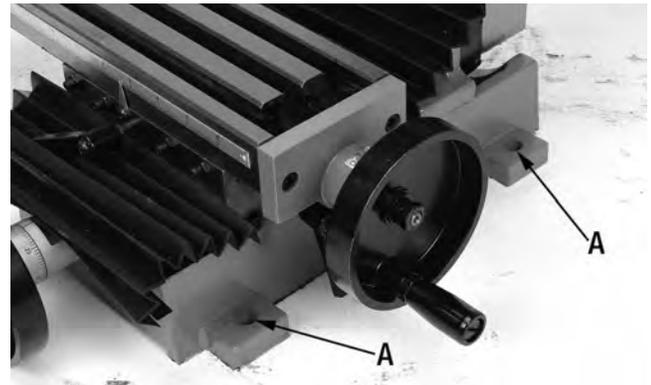

FIGURE 4
Remove all contents from the packing. Lift the Mini Milling/Drilling Machine using handling equipment or get the help of an assistant and place it on level workbench or stand. Make sure the workbench or the stand is sturdy enough to support the weight of this Mini Milling/Drilling Machine (110 lbs). Secure the base to the workbench or stand using the 4 mounting holes (A) Fig.4 and hex. bolts/nuts (hardware not included).